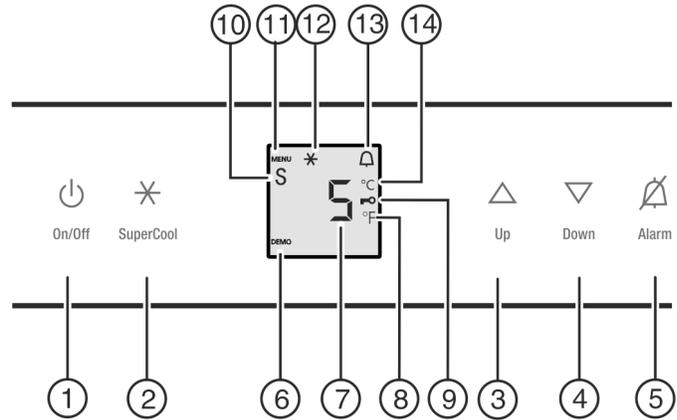

Fig. 2
- ▶ Press the On/Off button Fig. 2 (1).
- ▶ To activate setting mode: Press and hold the SuperCool button *Fig. 2 (2)* for approx. 5 s.
- ▷ The Menu symbol *Fig. 2 (11)* lights up.
- ▶ Using Up button *Fig. 2 (3)*/ Down button *Fig. 2 (4)* select °.
- ▶ To confirm: Briefly press the SuperCool button *Fig. 2 (2)*.
- ▶ To exit setting mode: Press On/Off button *Fig. 2 (1)*.
- ▶ Select setting mode: Press and hold the SuperCool button *Fig. 2 (2)* for approx. 5 seconds.
- ▶ Using the Up *Fig. 2 (3)* or Down button *Fig. 2 (4)*, select c.
- ▶ Press the SuperCool button *Fig. 2 (2)* briefly to confirm. When c l is shown on the display:
- ▶ To switch on the child proof lock, press the SuperCool button *Fig. 2 (2)* briefly.
- ▷ The Child safety symbol *Fig. 2 (9)* lights up. c flashes on the display. When c l is shown on the display:
- ▶ To switch the child proof lock off, press the SuperCool button *Fig. 2 (2)* briefly.
- ▷ The Child safety symbol *Fig. 2 (9)* goes out. c flashes on the display.
- ▶ To deactivate setting mode: Press the On/Off button *Fig. 2 (1)*.
- ▶ Press Alarm button *Fig. 2 (5)*.
- ▶ To access the Sabbath mode function: Briefly press the SuperCool button *Fig. 2 (2)*.
- ▶ **To turn on** Sabbath mode, briefly press the SuperCool button *Fig. 2 (2)*.
- ▶ **To turn off** Sabbath mode, briefly press the SuperCool button *Fig. 2 (2)*.
- ▷ The Sabbath Mode symbol *Fig. 2 (10)* appears on the temperature display as long as Sabbath Mode is active.